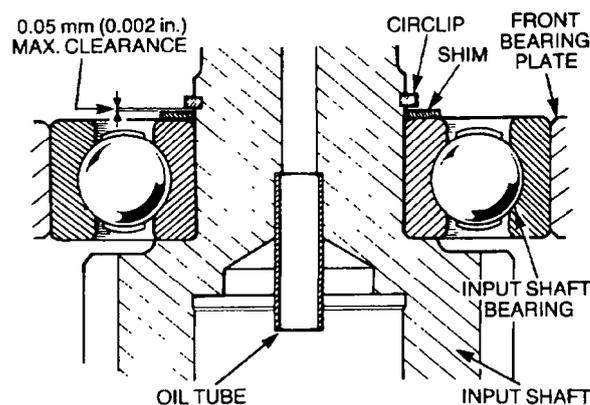

Figure 173 Installing the Input Shaft
- gg.** Using a suitable press, install the new input shaft bearing in the front bearing plate until the bearing is flush with the plate (Figure 173).
- hh.** Press the input shaft fully into the input shaft bearing, install the shim and circlip and measure the clearance between the circlip and the shim (Figure 173). The maximum clearance is 0.05 mm (0.002 in).